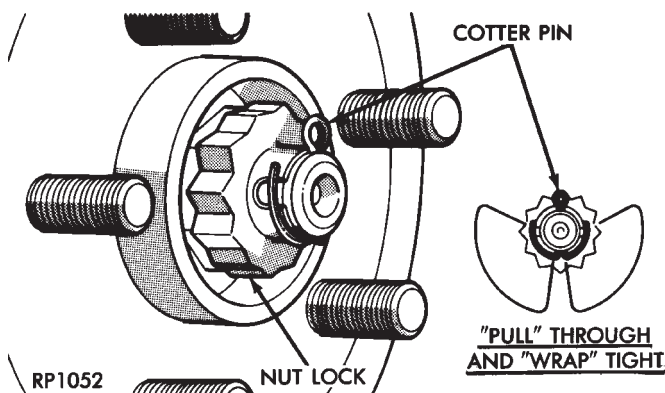

Fig. 77 Installing Spring Washer, Nut Lock And Cotter Pin
(14) Install the spring washer, hub nut lock, and a **new** cotter pin. Wrap cotter pin prongs tightly around the hub nut lock (Fig. 77).
(15) Install front wheel and tire assembly. Install front wheel lug nuts and tighten in correct sequence. Then tighten to a torque of 129 N·m (95 ft. lbs.).
(16) Lower vehicle.